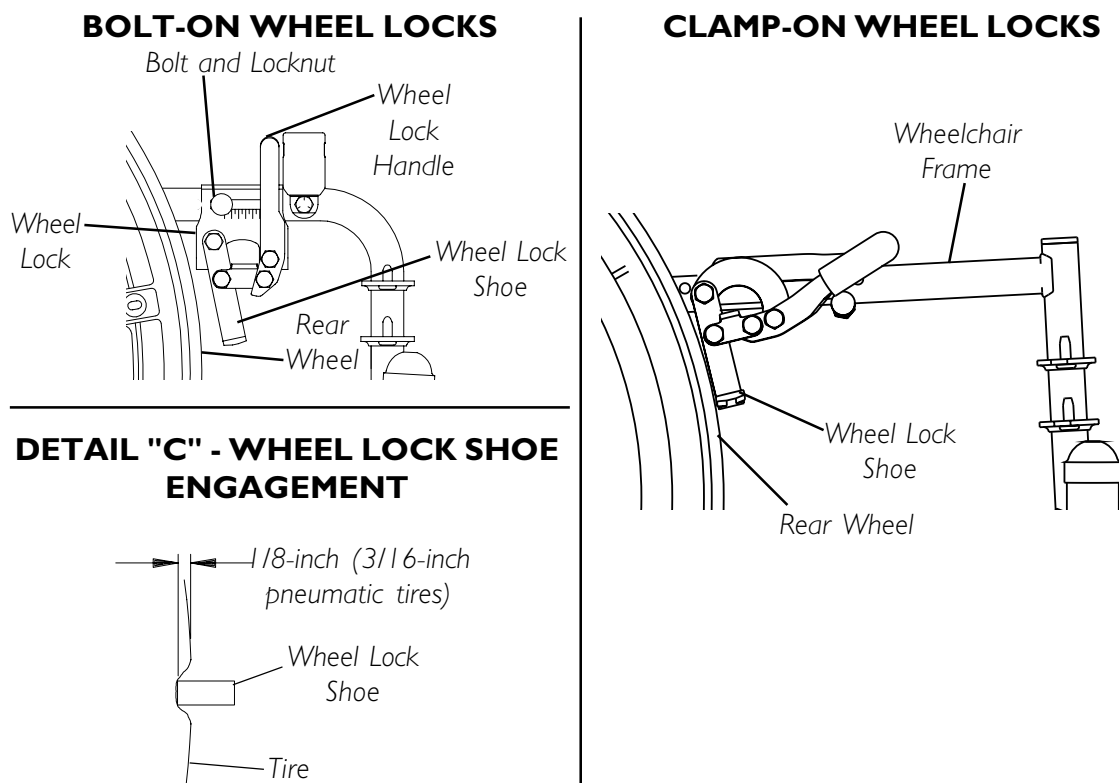

FIGURE 10 - ADJUSTING THE WHEEL LOCKS
ADJUSTING THE WHEEL LOCKS (FIGURE 10)
6. Measure the distance the wheel lock is embedded into the tire as shown in DETAIL "C" of FIGURE 10.